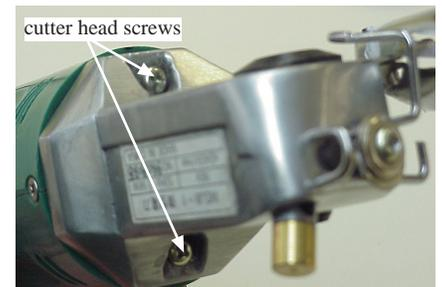

Figure 10.
4. Unscrew the two cutter head screws and take the cutter head off (see Figure 10)